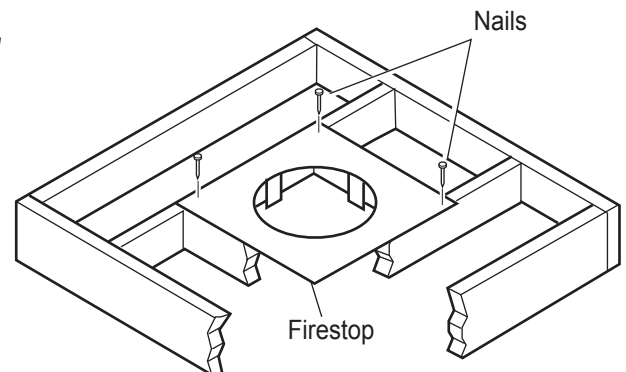
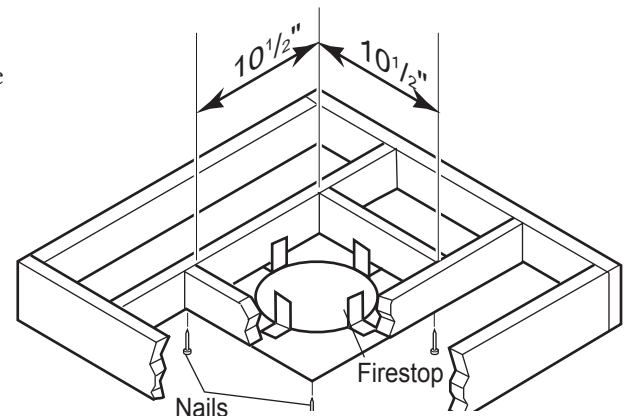

Figure 28- If area above is a room, install firestop above framed hole as shown
Figure 29 - If area above is not a room, install firestop below framed hole as shown
1. Cut a 10¹/₂" (267mm) square hole in the ceiling using the locating hole as a center point. The opening should be framed to 10¹/₂" x 10¹/₂" (267mm x 267mm) inside dimensions as shown in *Figure 12*, page 17 using framing lumber the same size as the ceiling joist. If the area above the ceiling is an insulated ceiling or a room, nail firestop from the top side. This prevents loose insulation from falling into the required clearance space. See *Figure 28*. Otherwise, install firestop below the framed hole. The firestop should be installed with no less than three nails per side. See *Figure 29*.